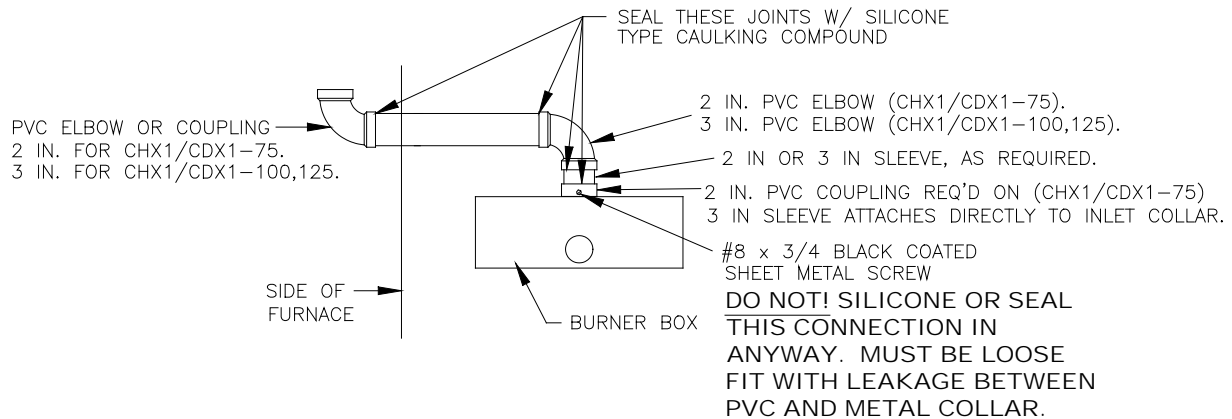

Figure 12: Typical Internal Air Intake Piping Arrangement for All Furnace Models
NOTICE: DO NOT apply silicone rubber type sealant or PVC cement to the joint at the thermoplastic piping connection to the metal burner box collar. Attach the PVC elbow to the sleeve and then to the coupling where required, using silicone rubber type sealant, refer to Figure 12.
- c. Insert the precut 2-inch (or 3-inch) thermoplastic pipe into the elbow at the burner box and to the elbow, or coupler, just outside the furnace using a silicone rubber type sealant. To properly make these seals, run a thin bead of silicone type sealant around the circumference of the PVC pipe, about 3/8 inch from either end. Insert the straight pipe section into the appropriate couplings and elbows and rotate 1/4 turn. Silicone rubber type sealants remain pliable after the initial setup period has passed allowing for relatively easy disconnection of the air intake system, should the burner assembly require removal at a later date, refer to Figure 12.